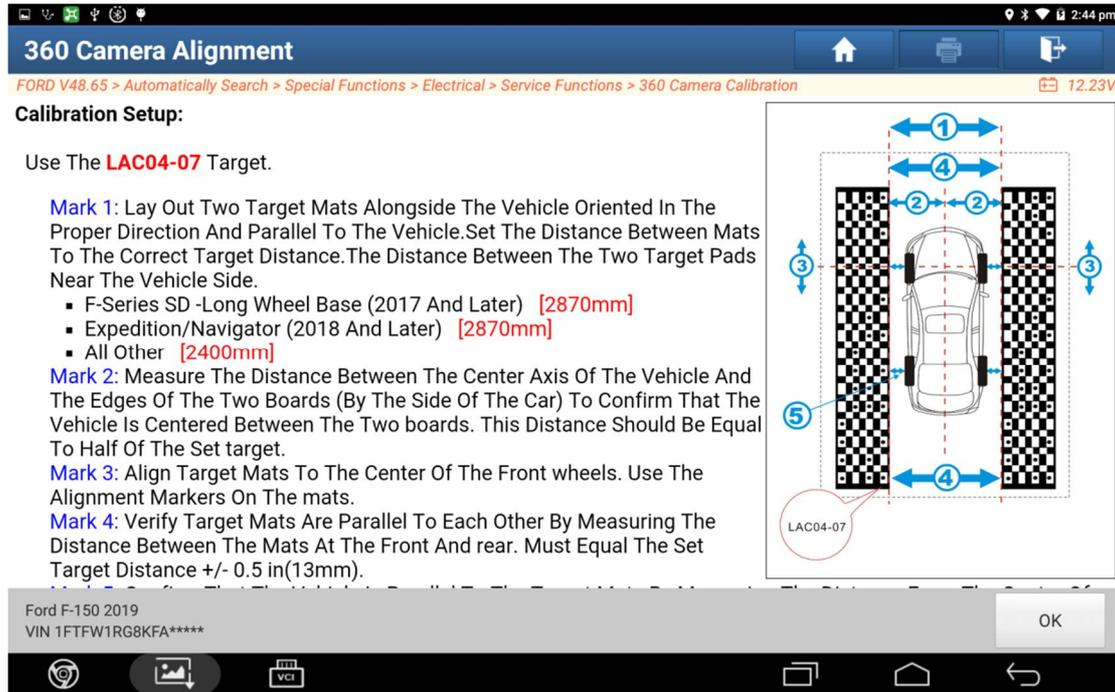

Figure 10
9. Place the target correctly according to the prompts (Figure 10). Take F-150 as an example: